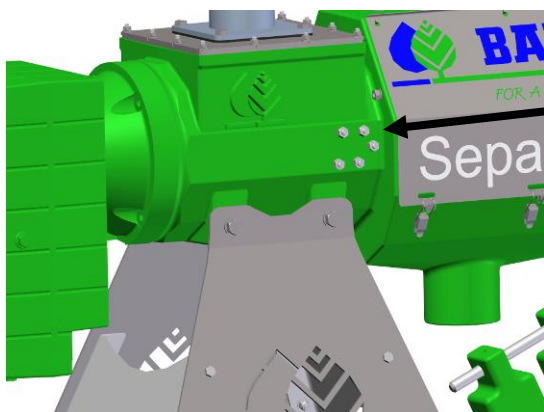

Fig. 13-16 Scraping bolts
6. Loosen the lock nuts of the scraping bolts and turn the scraping bolts roughly one turn counter-clockwise, see Fig. 13-16.